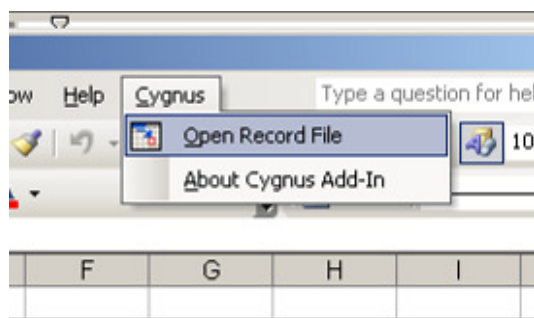

Fig. 11.13 Excel Menu Bar – Cygnus Add-In.
1. Open Excel and click on the **Cygnus** Menu bar option, fig. 11.13.